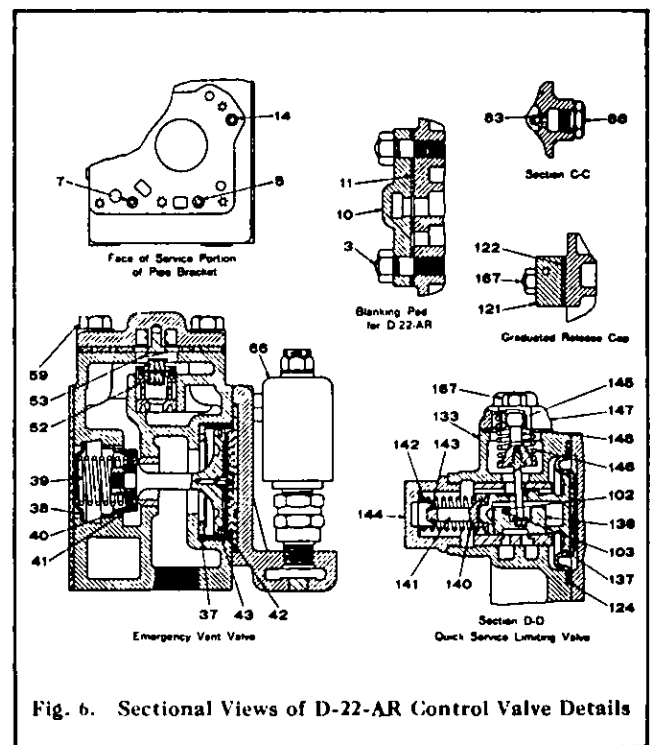

Fig. 6. Sectional Views of D-22-AR Control Valve Details
7. *Exhaust Choke Plug, Fig. 6*, which controls the rate of exhaust from the displacement reservoir when releasing the brake.
8. *Service Choke Plug, Fig. 6*, which controls the rate of displacement reservoir build-up when a service brake application is made.
14. *Preliminary Quick Service Choke Plug, Fig. 6*, which controls the rate of brake pipe flow to the quick service volume during the first stage of preliminary quick service application.